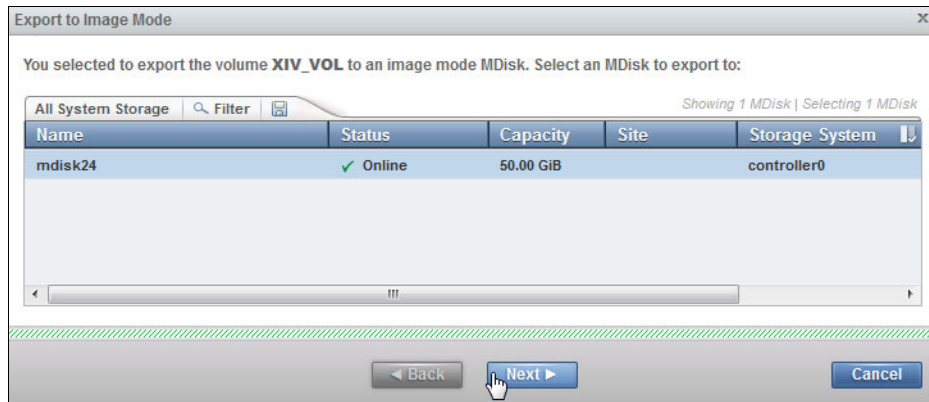

Figure 5-17 Export to Image mode MDisk selection
2. Select the MDisk (mdisk24 in this example) target for Image mode migration, as shown in Figure 5-17.